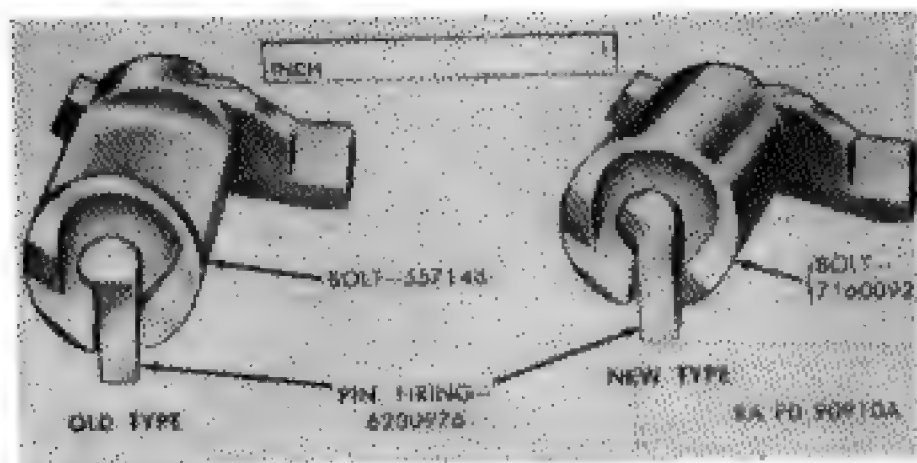

Figure 61. Bolt and firing pin.
h. Check to assure that only the new type of modified type firing pin (Fig. 61) is used. The old type pins can be modified by depot maintenance if the quantity involved warrants the work required to accomplish this (Fig. 62). Function test bolt and firing pin.